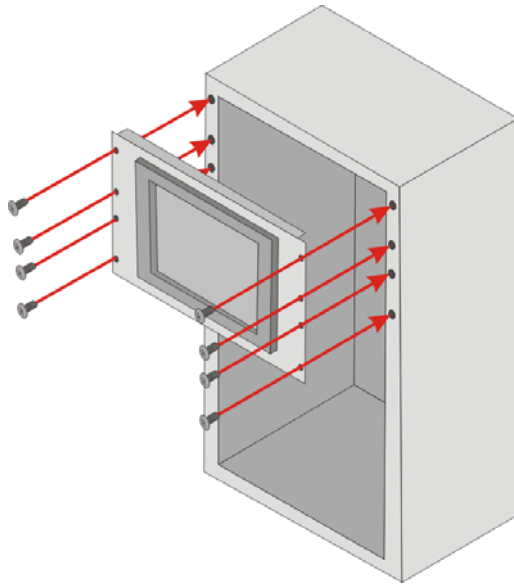

Figure 3-21: Install into a Rack/Cabinet
Step 4: Slide the AFL-F08A-N270 with the attached rack/cabinet bracket into a rack or cabinet (**Figure 3-21**).
Step 5: Once the AFL-F08A-N270 with the attached rack/cabinet bracket has been properly inserted into the rack or cabinet, secure the front of the rack/cabinet bracket to the front of the rack or cabinet (**Figure 3-21**).